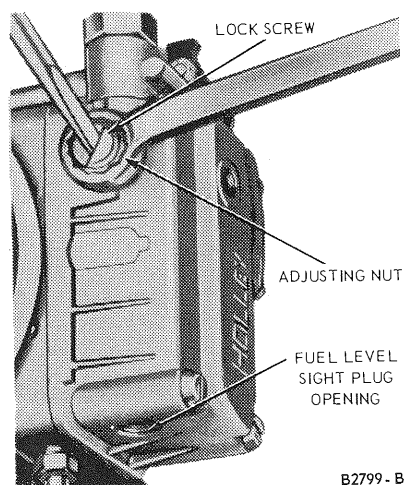

FIG. 53 Adjusting Fuel Level
2. Check the fuel level in each fuel bowl separately (Figure 53). **Place a suitable container below the fuel level sight plug in the fuel bowl to collect any spillover of fuel. Carefully remove the fuel level sight plug and gasket.**
1. With the engine stopped, loosen the lock screw on top of the fuel bowl just enough to allow rotation of the adjusting nut underneath (Figure 53). **Do not loosen the lock screw or attempt to adjust the fuel level with the sight plug removed and the engine running because the pressure in the line will spray fuel out and present a fire hazard.**